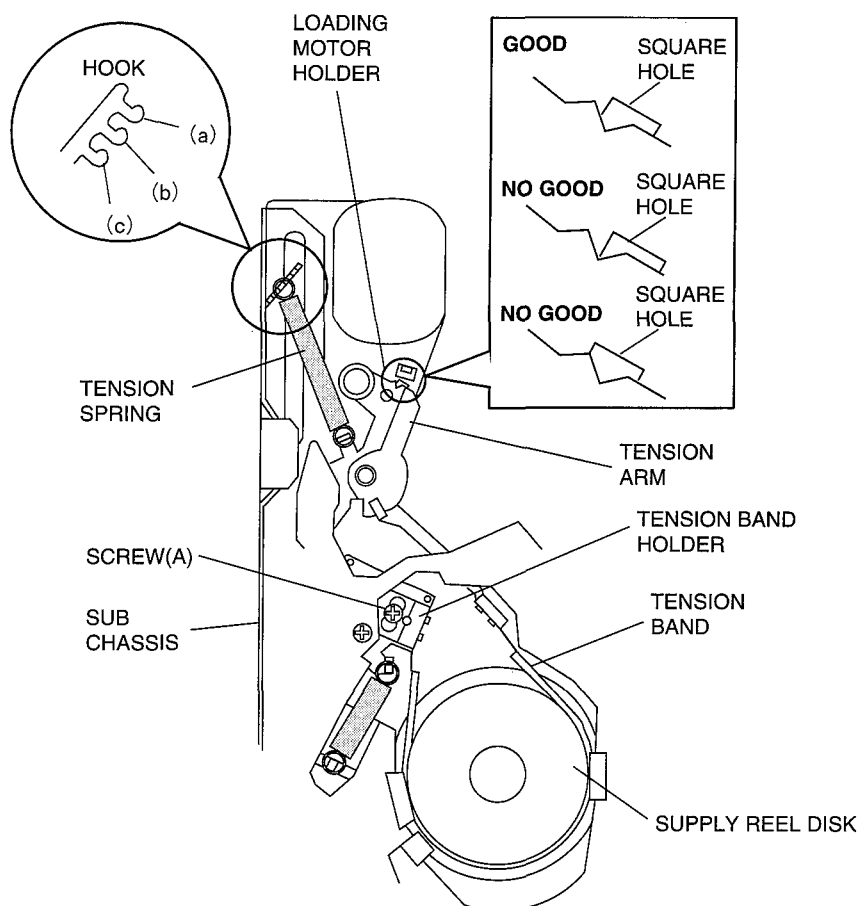

Fig. 3-1
- (1) Hook the tension spring to position (b) of the hook on the sub chassis. (See Fig. 3-1)
- (2) Check the torque meter on the supply side to 7 to 11 g-cm.